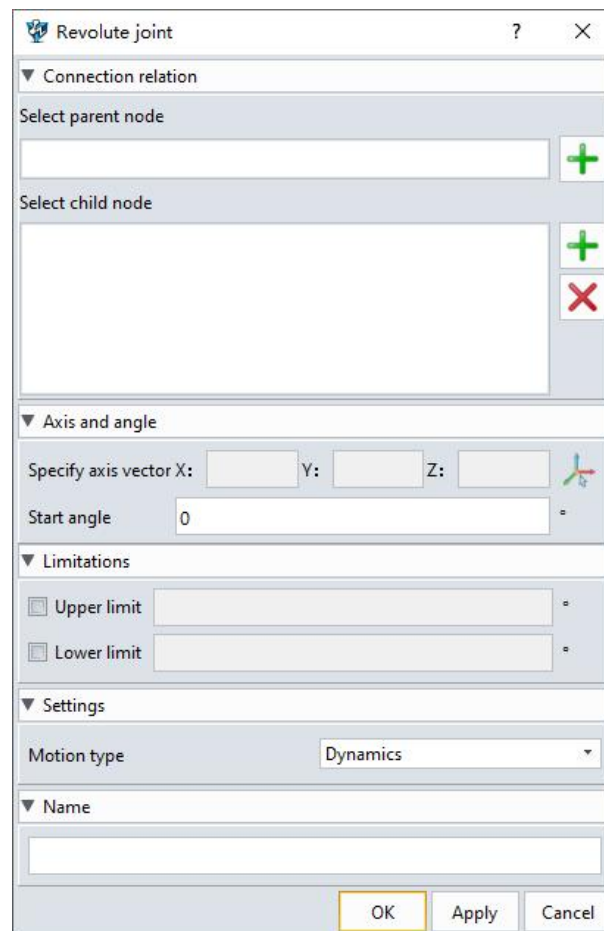

Figure 3-8: Revolute joint
- Specify axis vector: Specify rotation axis, starting angle: The angle of the connector relative to the basic component before the simulation starts.(Figure 3-8)